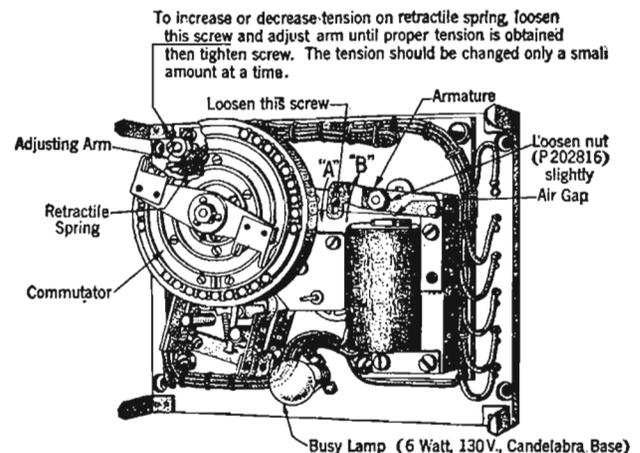

Fig. 2—Operating Unit of Code Sending Station
2.04 **Armature Spring:** The retractile spring referred to in Fig. 2 is for the purpose of pulling the armature away from the pole face and ordinarily requires no adjustment in the field.